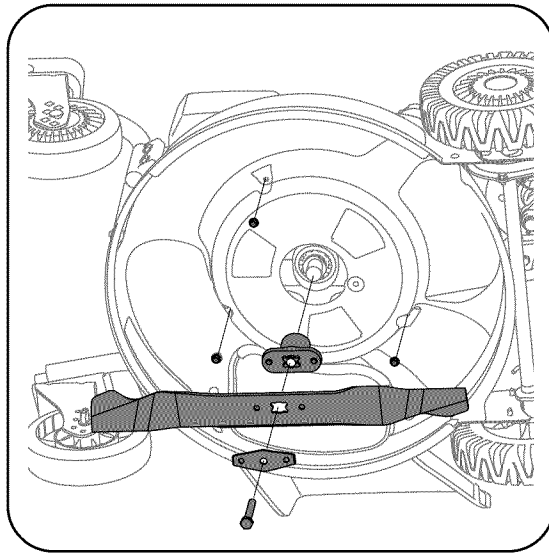

Figure 16
5. Remove blade, blade adapter, and related hardware as instructed in Blade Care above. Remove the three hex screws holding baffle to the deck. See Figure 16.